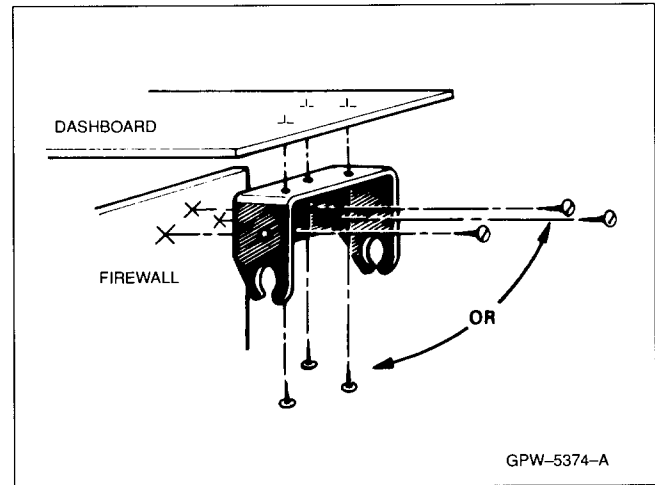

Figure 9. Standard Speaker Mounting
- (1) Mark the mounting location (see Figure 9) using the trunnion bracket as a template; drill four 5/32" holes. If mounting into a plastic surface, use a metal backing plate.
- (2) Attach the trunnion bracket using all four #10-16 x 5/8" self-tapping screws supplied in the mounting kit.